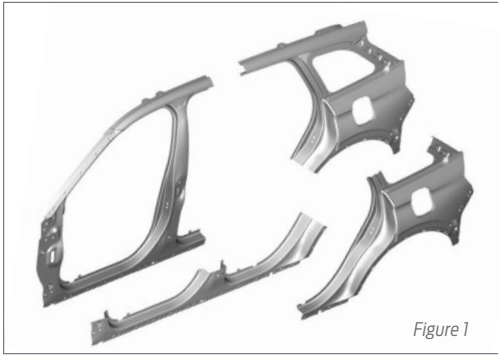

Figure 1
1. Available service panels (Figure 1).